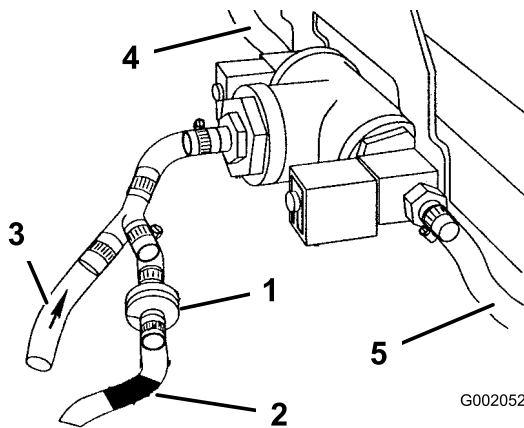

Figure 14
3. Slide the marked supply hose onto the barb on the check valve located at the tee assembly (Figure 14).
4. Connect the other supply hose to the barbed “Y” at the tee assembly (Figure 14).
7. Secure both hoses with small hose clamps (Figure 14).